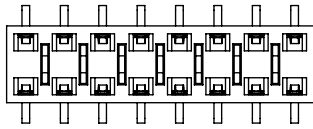

FIG 3
- BE: BOTTOM ENTRY (USE RHLE-50-DBE) (SEE FIG 3) (AVAILABLE ON -PE STYLE ONLY)